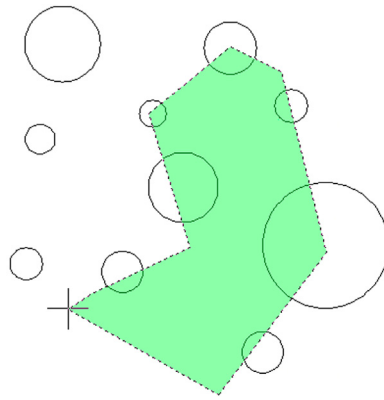

FIGURE 15.45
Step 1. Draw another set of circles, as seen in Figure 15.45, or just undo your previous steps.
As you can see, the Crossing polygon (Figure 15.45) works the same exact way as the Window polygon, except anything it touches gets selected, much like how the regular Crossing operates.